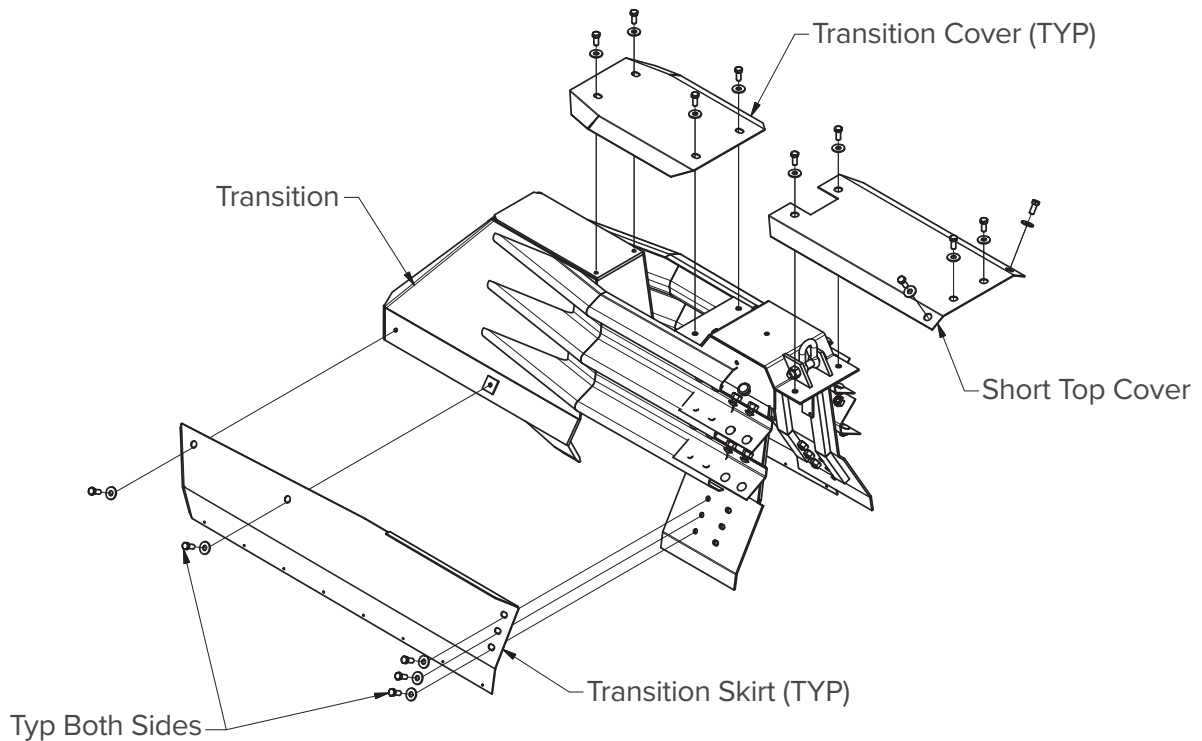

Figure 18
1. **Temporarily remove the transition skirts and short top covers on the transition assembly** (Figure 18). Use a 15/16" hex key to remove the 5/8" diameter bolts holding each skirt and cover in position.